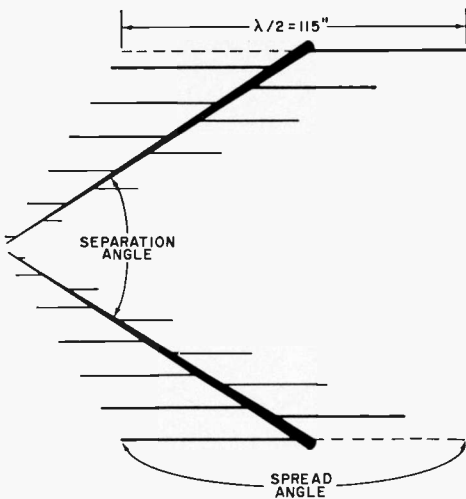

Fig. 1. Antenna gain and pickup characteristics are chiefly determined by spread and separation angles.
**About the Circuit.** The noises emitted by The Orb are generated by two unijunction oscillators feeding a common audio amplifier (see Fig. 1). The frequencies of the oscillators are changed by switching components in and out of the circuits. The switching is performed by
**Construction.** The electronic circuit, shown in Fig. 1, is constructed on the
**Antenna Characteristics.** The factors that have the greatest effect on the gain and performance of the Pyramidal antenna are the spread and separation angles (see Fig. 1) and, to a lesser degree, the number of elements used to
Theoretically, the longest element in the array should be cut to one-half wavelength at the lowest operating frequency. In practice, however, this is neither necessary nor desirable since the drop-off of the gain curve is so gradual. For this reason, as shown in Fig. 1, the longest element spans only 115" tip-to-tip, about one-half wavelength at 51 MHz.